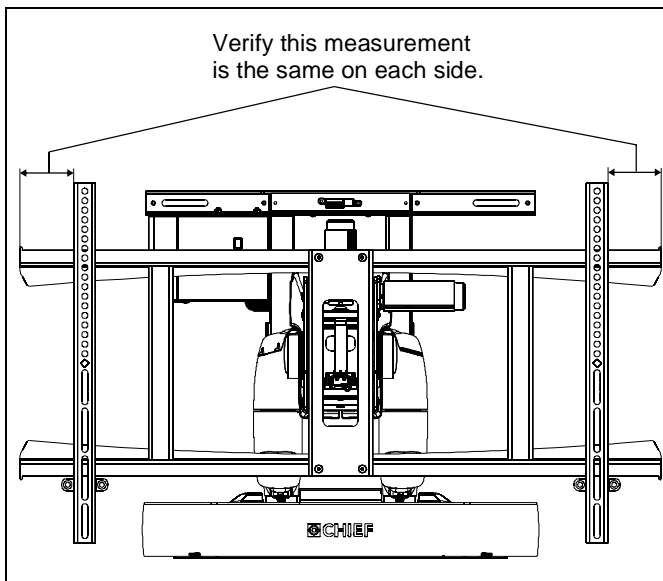

Figure 27
**IMPORTANT !** : Do NOT operate PXR with display off-center. Measure to verify that display is centered on the PXR. (See Figure 27)